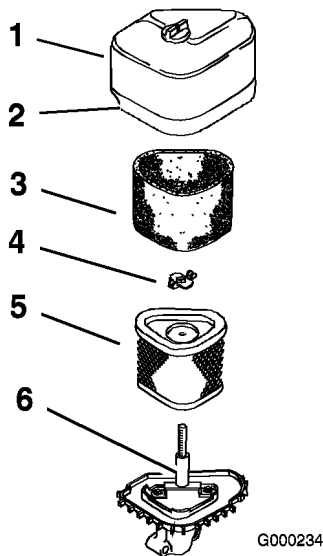

Figure 17
2. Clean around the air cleaner to prevent dirt from getting into the engine and causing damage. Unscrew the cover nut and remove the air cleaner cover (Figure 17).
3. Remove the air cleaner assembly (Figure 17).
4. Carefully slide the foam element off the paper element (Figure 17).
1. Carefully slide the foam element onto the paper air cleaner element (Figure 17).
2. Place the air cleaner assembly onto the air cleaner base (Figure 17).
3. Install the air cleaner cover and secure with cover nuts (Figure 17).